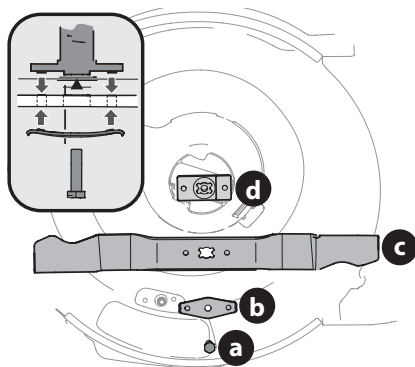

Figure 41
4. Remove bolt (a) and blade bell support (b) which hold the blade and the blade adapter to the engine crankshaft (Figure 41).
5. Remove blade (c) and blade adapter (d) from the crankshaft (Figure 41).
7. Lubricate the engine crankshaft and the inner surface of the blade adapter with light oil (Figure 41 inset).